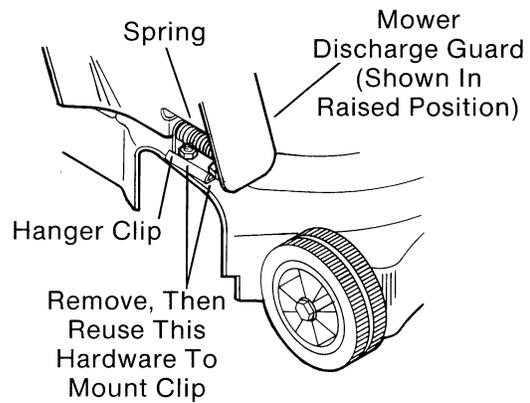

FIG. 10
A. Remove the nut and lockwasher from each of the two screws under the discharge guard spring. (Fig. 10)